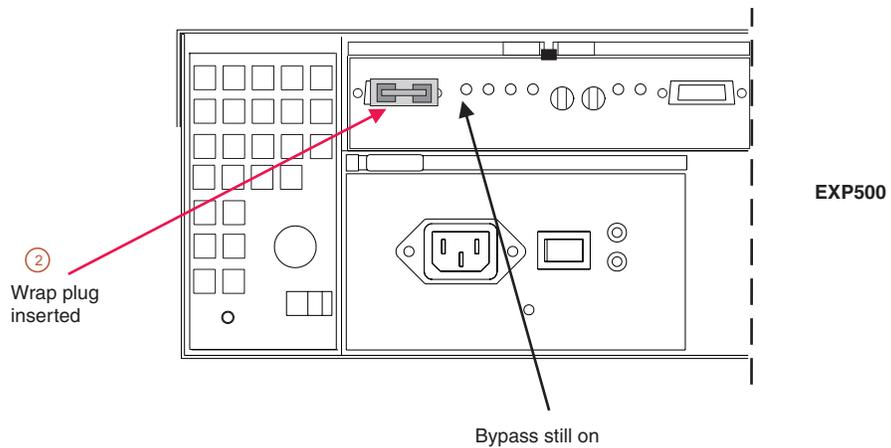

Figure 46. Insert wrap plug
2. Insert a wrap plug in the element from which you disconnected the cable. See Figure 46.